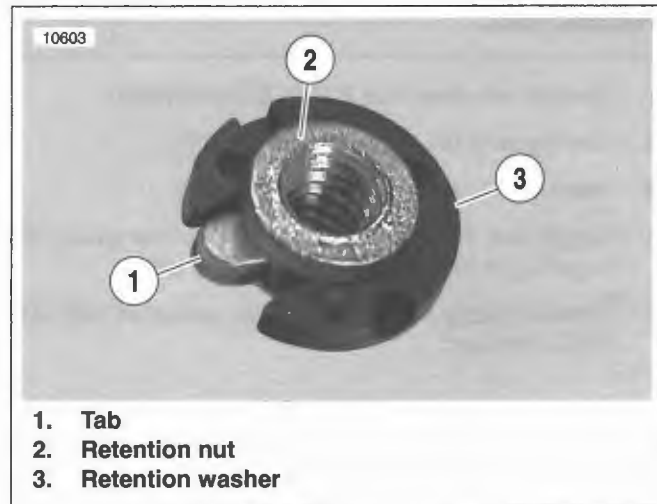

Figure 2-154. Seat Retention Nut
3. See Figure 2-154. With tab (1) on retention nut (2) seated in notch of fender hole, pull up on cable strap to hold nut snug against underside of rear fender.
4. From the side opposite the tab, slide on the retention washer (3) to lock the position of the retention nut.